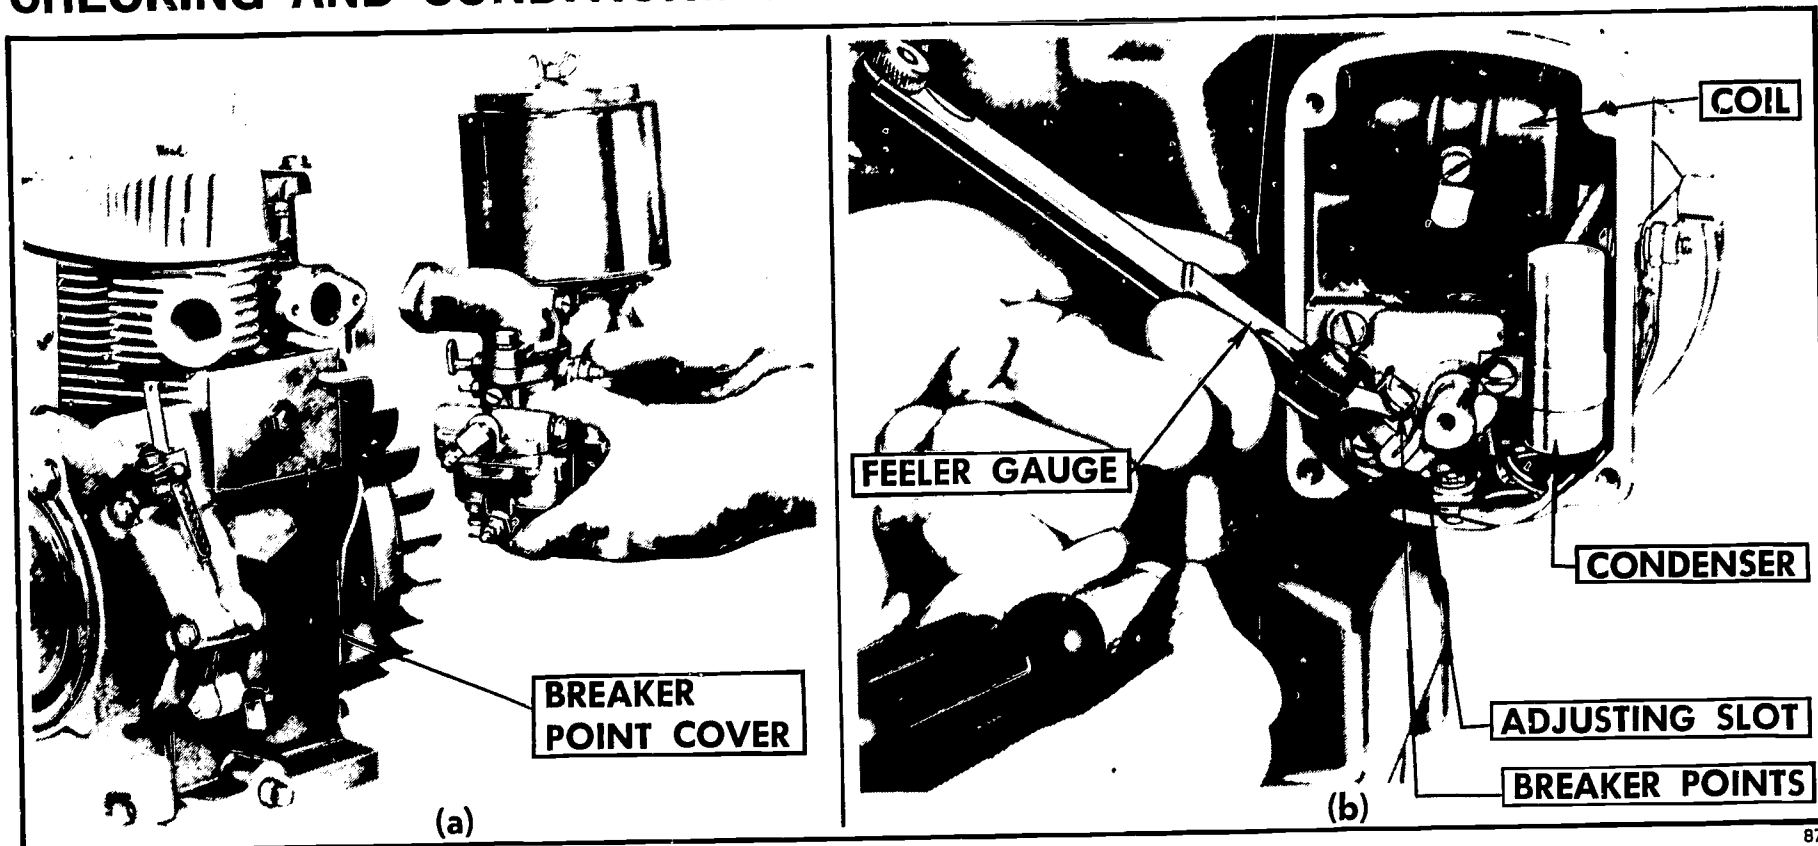

FIGURE 93. Some breaker points are located on the side of the engine. (a) Engine with a flywheel magneto but
1. *Locate the breaker-point assembly (Figures 93 and 94).*
Some breaker points are easily accessible. They are **located on the side of the engine** and may be reached by removing a protective cover (Figure 93).